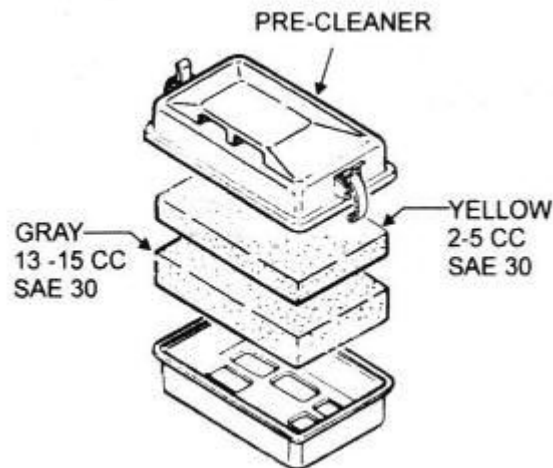

Figure 11 Optional Pre-Cleaner
- Remove the element from the pre-cleaner (Figure 11) at the top of the crankcase (body side) and clean it with cleaning oil (kerosene).